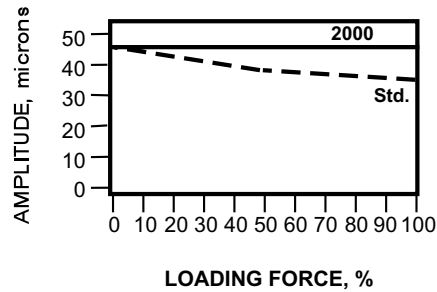

Figure 3. Amplitude vs. Loading
- **Load Regulation** - Regardless of load, the power supply will deliver the selected amplitude from the converter. (Figure 3.)